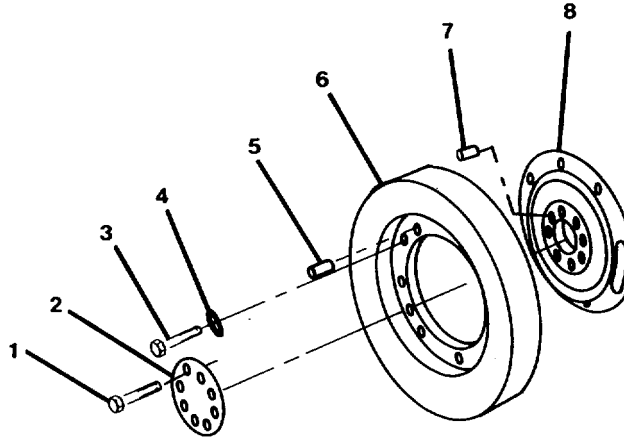

FIGURE 4-43. Vibration Damper Mounting Components.
- a. Remove bolts (3, FIG. 4-43) and washers (4), securing damper (6) to the crankshaft. Do not remove oil pin (5) unless it is damaged.
- b. Lift damper (6) away from crankshaft.
- c. Remove bolts (1) and spacer (2) from adapter (8). Remove adapter.
- d. Install two 9/16-18 capscrews that have enough thread length to pass through the adapter (8) and touch the front mount with approximately 3/8 inch (9 mm) of thread protruding from the adapter. Turn the capscrews clockwise alternately and evenly to pull the adapter from the crankshaft.
- e. Remove adapter (8). The roll pin (7) does not have to be removed unless it is damaged.
- b. Install roll pins in the front nose of the crankshaft and adapter face (7, FIG. 4-43), if they were removed.